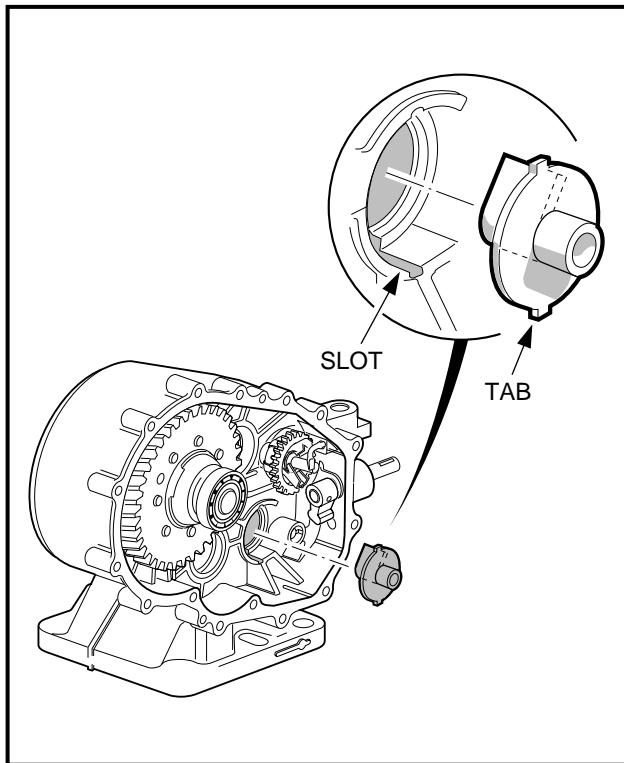

Figure 16-74 Oil Guide
- 7.2. Install the idler gear assembly into case as shown. Do not seat the assembly in the bore, but insert far enough that it will not fall out. No gears mesh at this time (**Figure 16-74, Page 16-32**).
- 7.3. Install the oil guide with the baffle toward the case wall as shown (**Figure 16-74, Page 16-32**). Make sure the two tabs on the guide are positioned in the slots in the case.